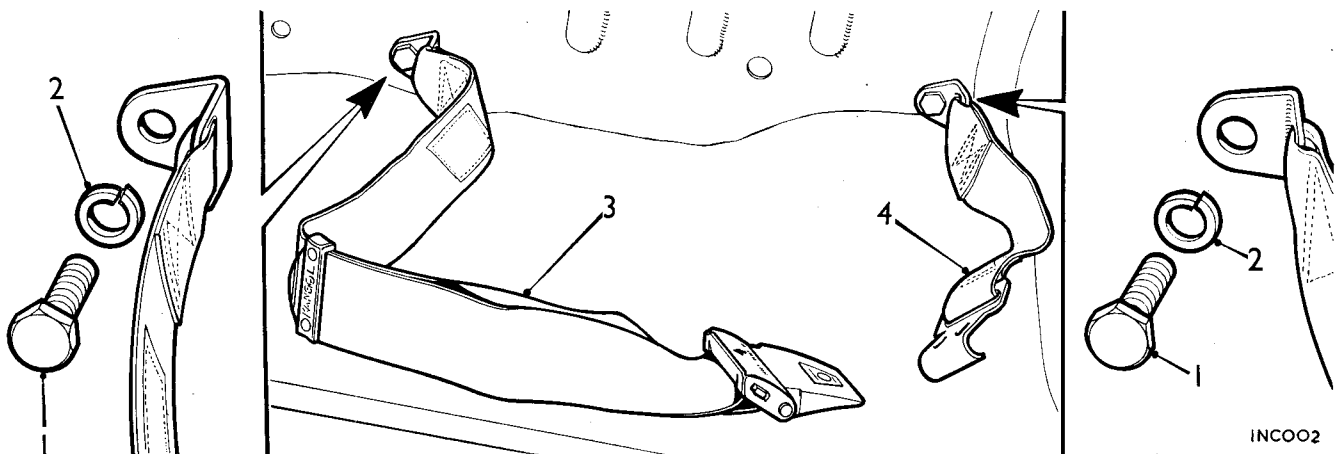

Fig. Rb.16
- (1) Remove the rear seat cushion and squab.
- (2) Remove the belt bracket retaining screws (1) with their spring washers (2), see Fig. Rb.16.
- (3) Reverse the order of the removing procedure, noting that the longer section of the belt is fitted to the fixing point nearest to the centre line of the car, see Fig. Rb.16.
- (4) Ensure that a spring washer is fitted under the head of each bracket retaining screw; align the brackets as shown in Fig. Rb.16 and tighten the retaining screws to a torque figure of 25 lb. ft. (3.5 kg. m.). ●